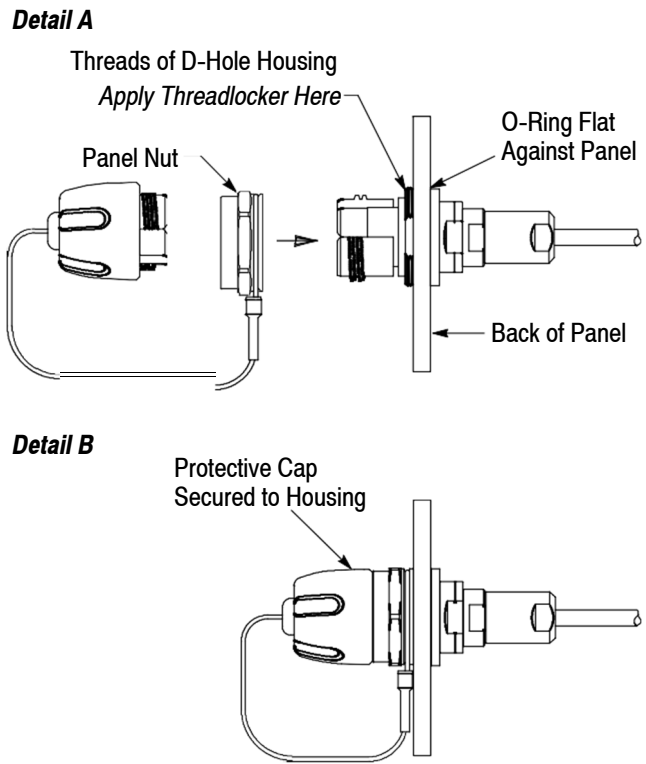

Figure 17
2. Install the connector through the back of the panel so that the O-ring on the shoulder of the D-hole housing is flat against the panel. See Figure 17, Detail A.
3. Apply 8 to 12 drops of the threadlocker to the exposed part of the threads of the D-hole housing. Refer to Figure 17, Detail A.
4. Thread the panel nut of the protective cap onto the D-hole housing. Using the 40-mm wrench, tighten the panel nut to a torque of approximately 40 N·m. See Figure 17, Detail A. When the panel nut is secure, the O-ring should be compressed.
5. Thread the protective cap onto the housing, then hand-tighten the protective cap as shown in Figure 17, Detail B.